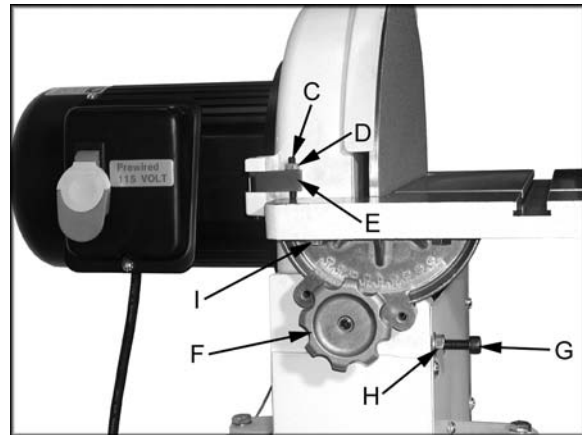

Figure 5
3. If adjustment is needed move the table so that it rests 90 degrees from the table, and loosen the hex nut (D, Figure 5) and tighten the set screw (C, Figure 5) until it contacts the table surface. Tighten hex nuts. This will properly adjust the 90-degree stop.
4. Loosen the lock knobs (F, Figure 5) and tilt the table up just enough to pivot the stop (E, Figure 5) out of the way.
5. Tilt the table down until it hits the 45 degree stop (G, Figure 5). Tighten lock knobs, and check the table with a combination square.
6. If adjustment is needed, loosen the hex nut (H, Figure 5) and adjust the socket head cap screw (G, Figure 5) until it contacts the table. Tighten hex nuts.
7. Always maintain a gap of approximately 1/16" between the table edge, and disc. If adjustment is necessary loosen hex cap bolts (I, Figure 5) and move the table into position. Tighten hex cap bolts.
9. If you want to tilt the table up you need to pivot the stop (E, Figure 5) out of the way.